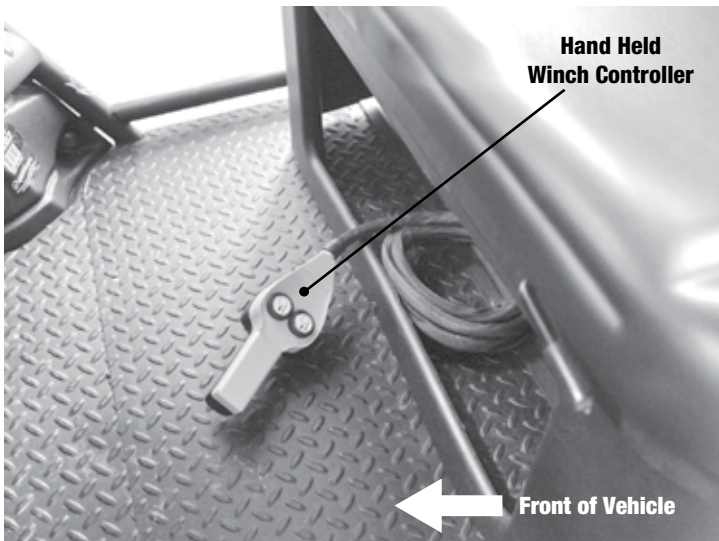

Fig. 4
4 Winch Wiring Installation (figures 4 & 5)
- Carefully route the long black and red pair of wires through the underbody channel to the front of the vehicle. (Ref Fig 4)